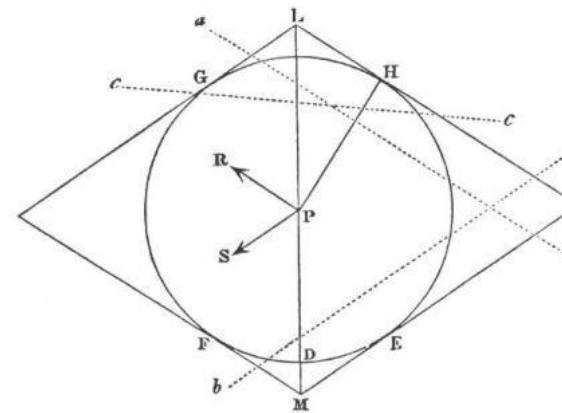

Fig. 1.
1. Let P (fig. 1) be the point where the traveller finds himself at fault, and let $P D$ be a distance within which the path certainly lies; then the circle, $E D F$, somewhere cuts the path, and the traveller starting from P must first go to D , and then make the entire circuit, $D E H F D$, before he has exhausted his search. This distance of $P D + D E H F D = P D + 6 P D$ nearly, $= 7 P D$ altogether, which gives the length of road that the man must be prepared to travel over who can answer no other than the question A. Of course, $P D$ may cut the path, but I am speaking of the *extreme* distance which the lost man may have to travel.